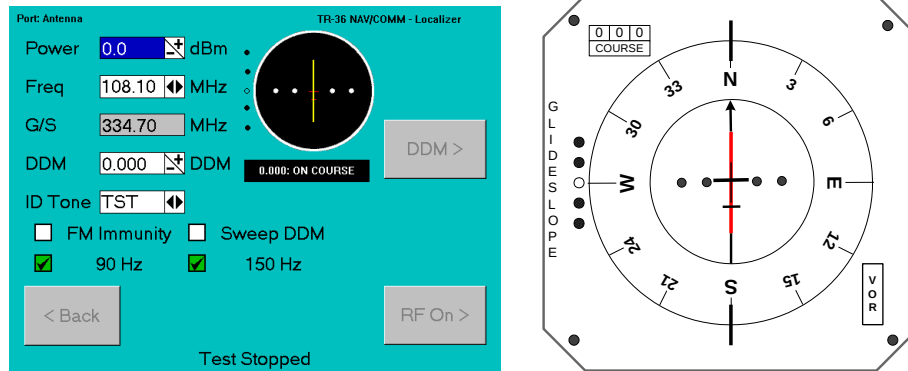

Figure 2-26. LOC Default
- Verify that the aircraft under test matches the same settings as the Test Set and also as shown on the Test Set graphical representation (Figure 2-26).